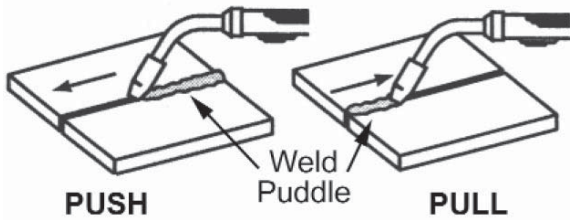

Figure 12. Travel Direction
1. TRAVEL DIRECTION is the direction the gun is moved along the weld joint in relation to the weld puddle. The gun is either PUSHED (see Figure 12) into the weld puddle or PULLED away from the weld puddle